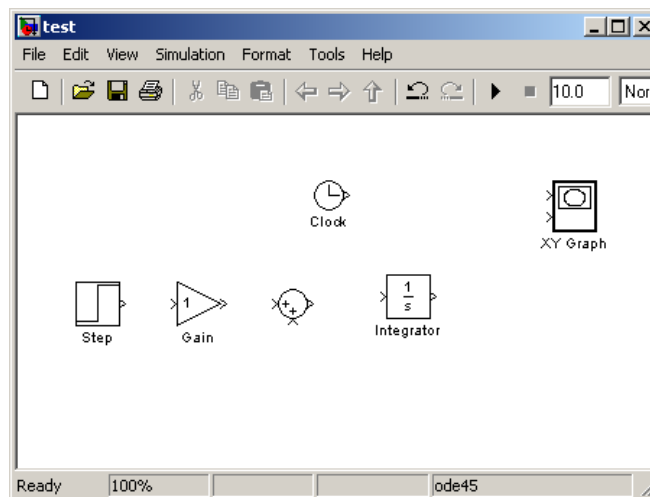

Figure 9: Simulink Model Blocks
12. Rearrange the blocks in the general order you will use them, as shown in Figure 9. At this point you probably realize you will need another **Gain** block. You can go back to the Library Browser, or just right click on the Gain block you have and choose copy and then paste.